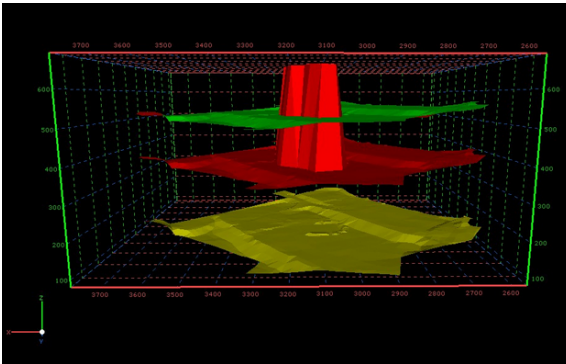

Figure 7-14. Example of Multiple DTMs on Display
- DTM Window – this window displays all available DTMs in the project (Figure 7-14).